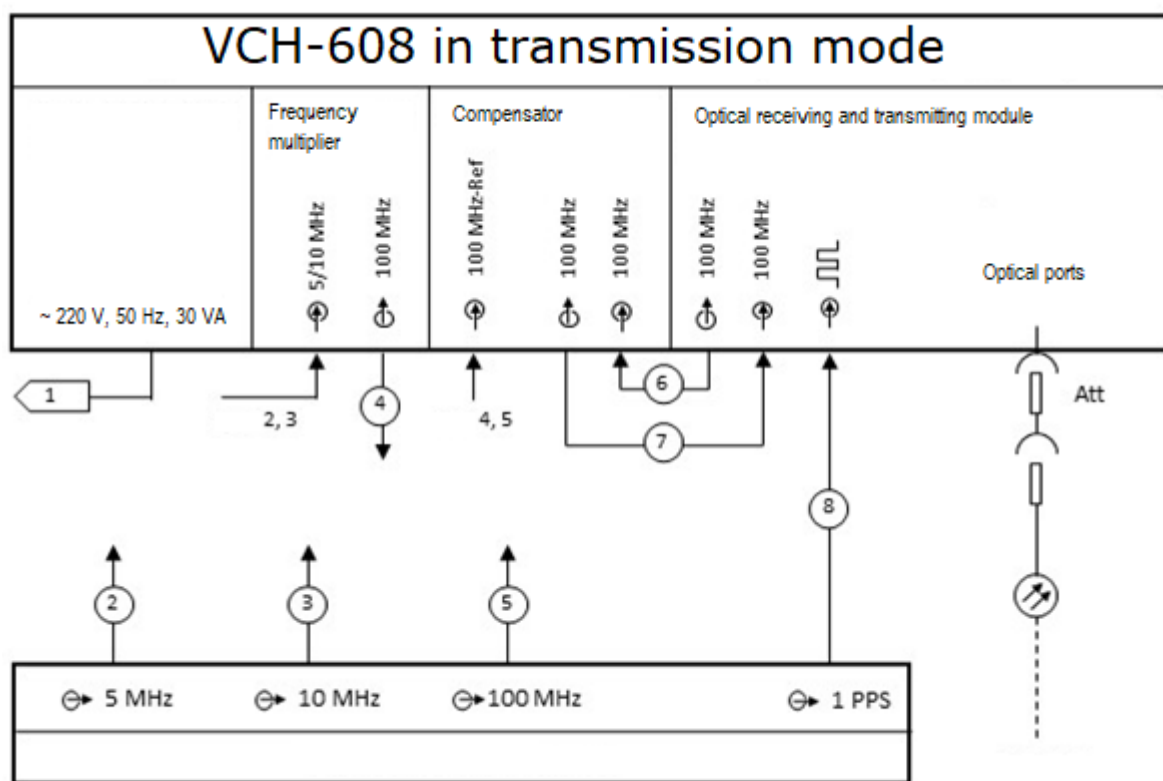

Figure 3.7 – Modem operation in the "Transmission" mode
Use the shortest possible cables to connect the consumer's equipment. Cable jumpers pos. 6 and pos. 7 in Figure 3.7 are included in the delivery package.
"Transmission" mode (Figure 3.7)
Connect the « $\ominus \sqcap \sqcap$ » ORTM connector to the 1 Hz signal source using an HF connecting cable (in Figure 3.7, cable item 6, connector « $\ominus 1 \text{ PPS}$ » of the signal
Connect the « $\ominus$ 100 MHz-Ref» connector of the compensator to the 100 MHz signal source using an HF connecting cable (in Figure 3.7, cable item 5, connector « $\ominus$ 100 MHz» of the signal source). The signal characteristics must comply with those specified in clause 3.2.4 of this OM.
Connect the « $\ominus$ 100 MHz-Ref» connector of the compensator to the 100 MHz output of the frequency multiplier using an HF connecting cable (in Figure 3.7, cable item 4, connector « $\ominus$ 100 MHz» of the frequency multiplier).